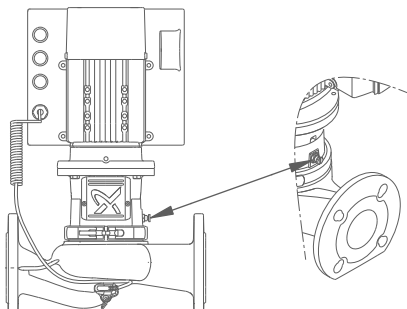

Fig. 26 Position of air vent screw
1. Close the discharge isolating valve and loosen the air vent screw in the motor stool. See fig. 26.
2. Loosen the air vent screw. See fig. 26.
3. Vent the pump during starting by loosening the air vent screw in the motor stool until a steady stream of liquid runs out of the vent hole. See fig. 26.